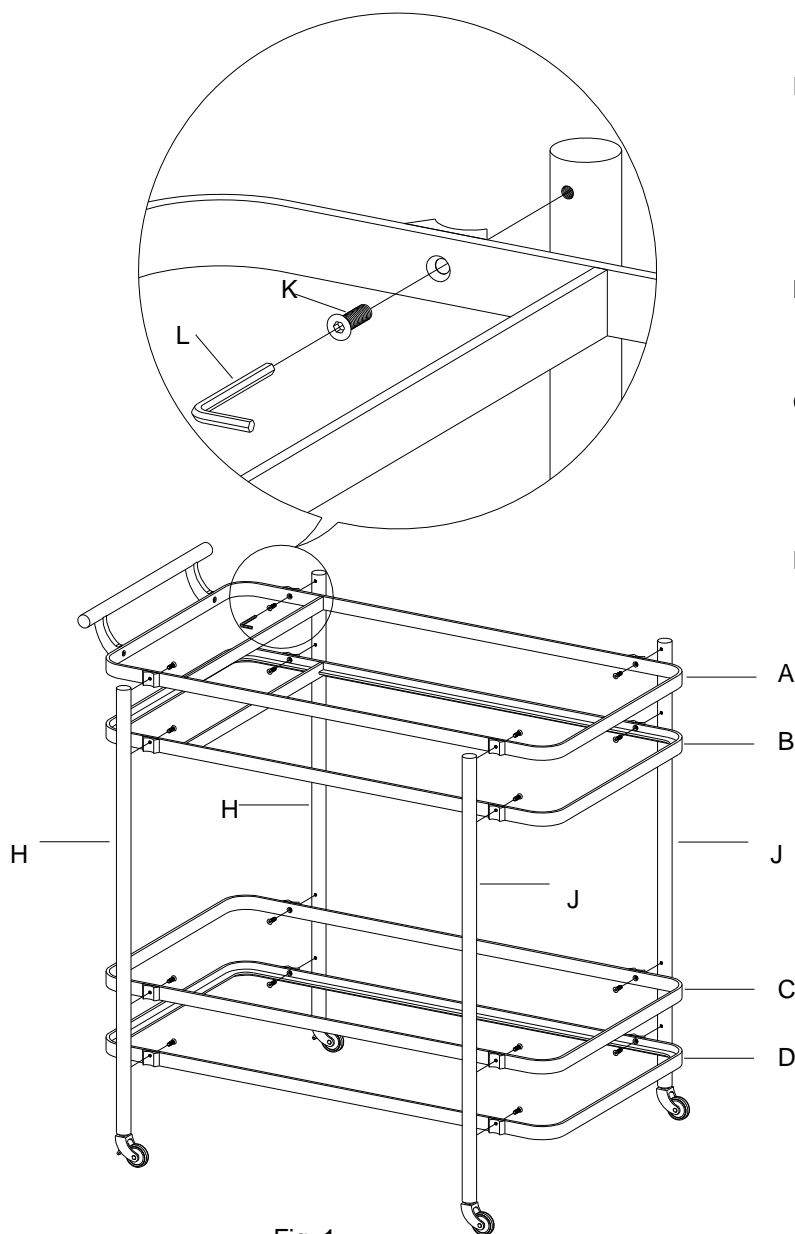

Fig. 1
Attach the fourth frame w/lip inside (D) to four pole legs (H), (J), align the holes and insert flat head Allen screws (K) into the four holes, do not tighten until all four frames are fully assembled. Repeat the same procedures for the rest three frames (C), (B) & (A). (Fig. 1)